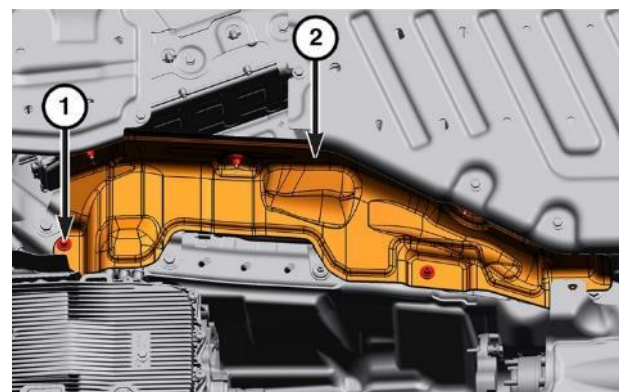

Figure 39 – Front Heat Shield
19. Remove the nuts securing the front heat shield (Figure 39).